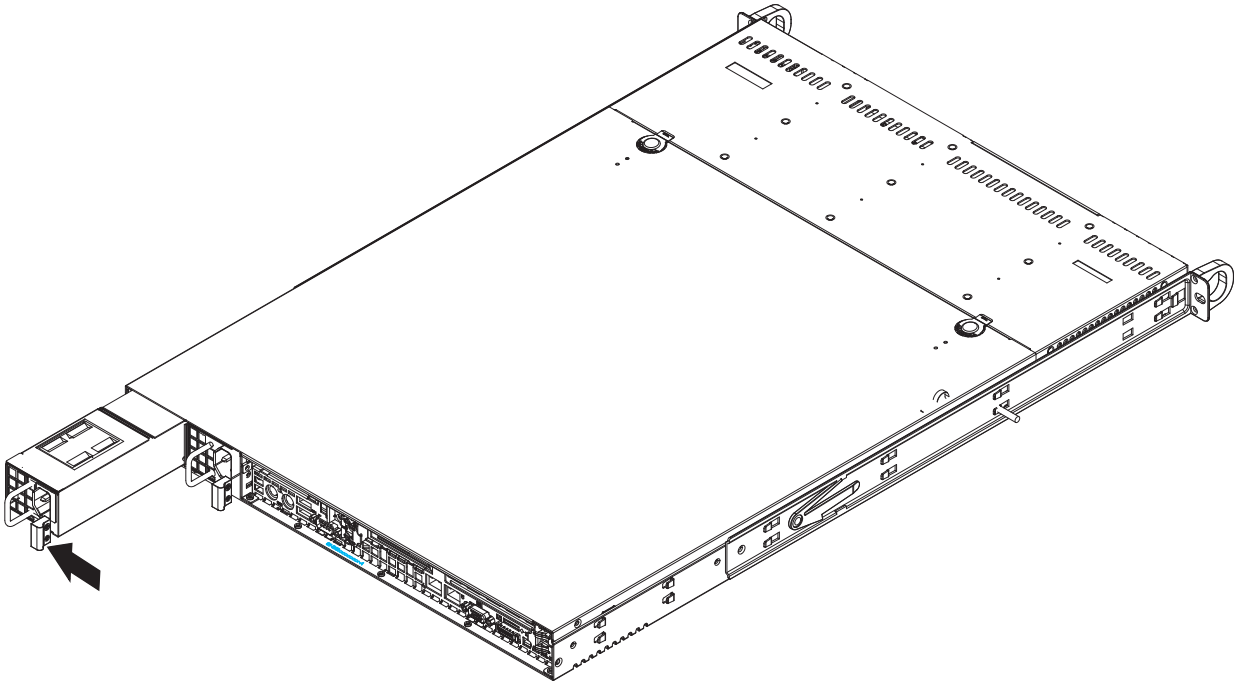

Figure 5-1 Replacing a Power Supply Module
2. To remove the failed power module, push the release tab (on the back of the power supply) to the side and then pull the module straight out (see Figure 5-1).